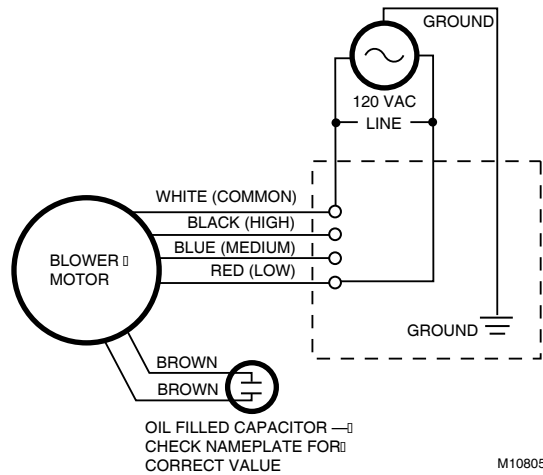

Fig. 17. F116A1021, F116A1047 and F116A1120 (120 Vac, 60 Hz); F116A1122, F116A2048, F116A2121 (220Vac, 50/60 Hz) air cleaner typical wiring diagram.
1. Connect the power. See Fig. 17.